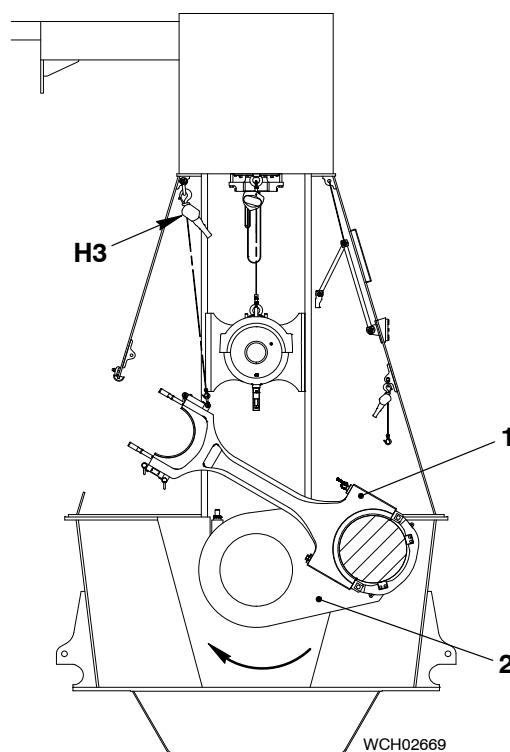

Fig. 16
- 21) Use the turning gear and the manual ratchet (H3, Fig. 16) to move the connecting rod (1) and crankshaft (2) clockwise into the position shown.